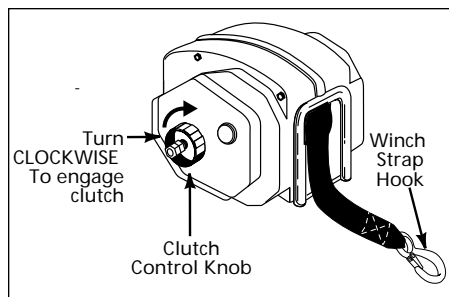

Figure 3. Clutch knob operation for loading.
3. Turn the clutch control knob clockwise until hand tight to set the brake (See Figure 3).